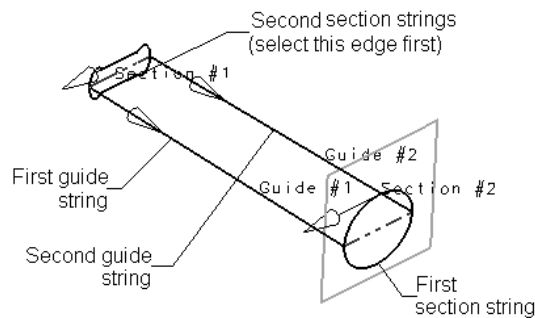

Figure 11-95 The entities to be selected to create the studio surface
8. Select the first section string, as shown in Figure 11-95. Press the middle mouse button; you are prompted to select the section again.
9. Select all elements from the second section string. Make sure that the arrows in both the section strings point in the same direction, as shown in Figure 11-95. Choose the **Guide (Cross) Curves** button; you are prompted to select the guide string.
10. Select the first guide curve, as shown in Figure 11-95, and press the middle mouse button; you are prompted to select the guide string again.
11. Select the second guide curve, as shown in Figure 11-95. Choose the **Apply** button and then the **Cancel** button to create the surface.